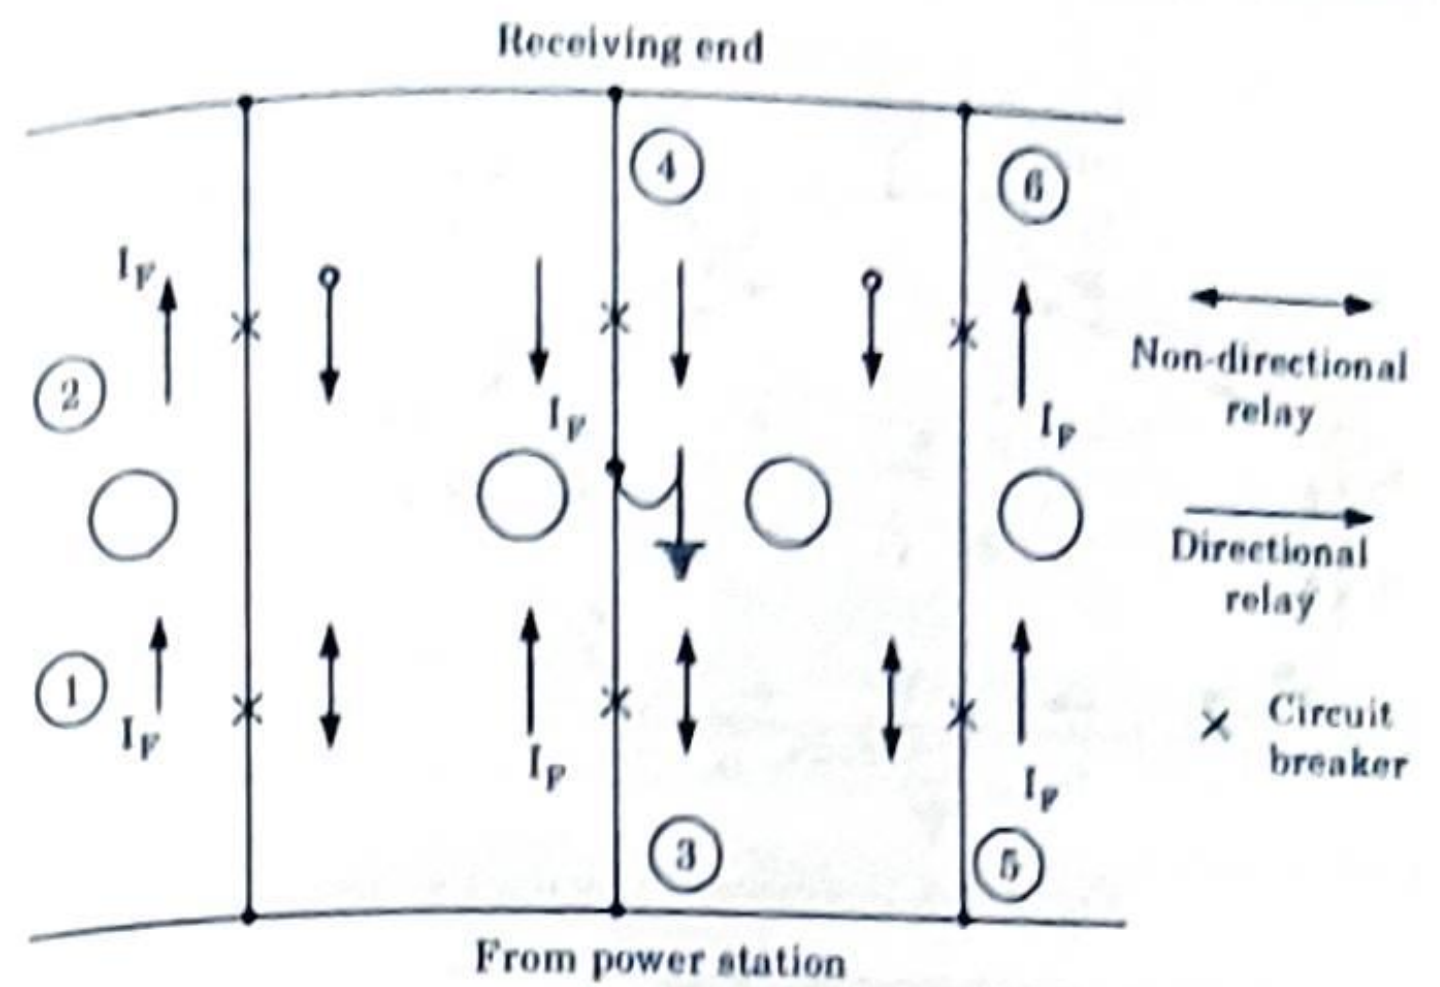

Fig. 3.14.2. Parallel feeder protection.
i. **Parallel feeder protection :** Fig. 3.14.2 shows the parallel connection of three feeders which are connected between a power station and remote supply point.